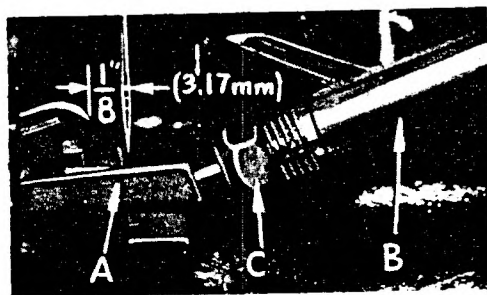

Fig. 5
On all of the Varieties covered in this catalog except 695B054, insert lower looper (A, Fig. 5) into bar (B). With lower looper at left end of its stroke, set looper point $\frac{1}{8}$ inch (3.17 mm) from center of needle (Fig. 5), using looper gauge No. 21225- $\frac{1}{8}$. Do not have lower looper deflecting needle. Tighten nut (C).
On machine **695B054** insert lower looper (A, Fig. 5) into bar (B). With lower looper at left end of its stroke, set looper point $\frac{3}{32}$ inch (2.38 mm) from center of needle (Fig. 5), using looper gauge No. 21225- $\frac{3}{32}$. Do not have lower looper deflecting needle. Tighten nut (C).